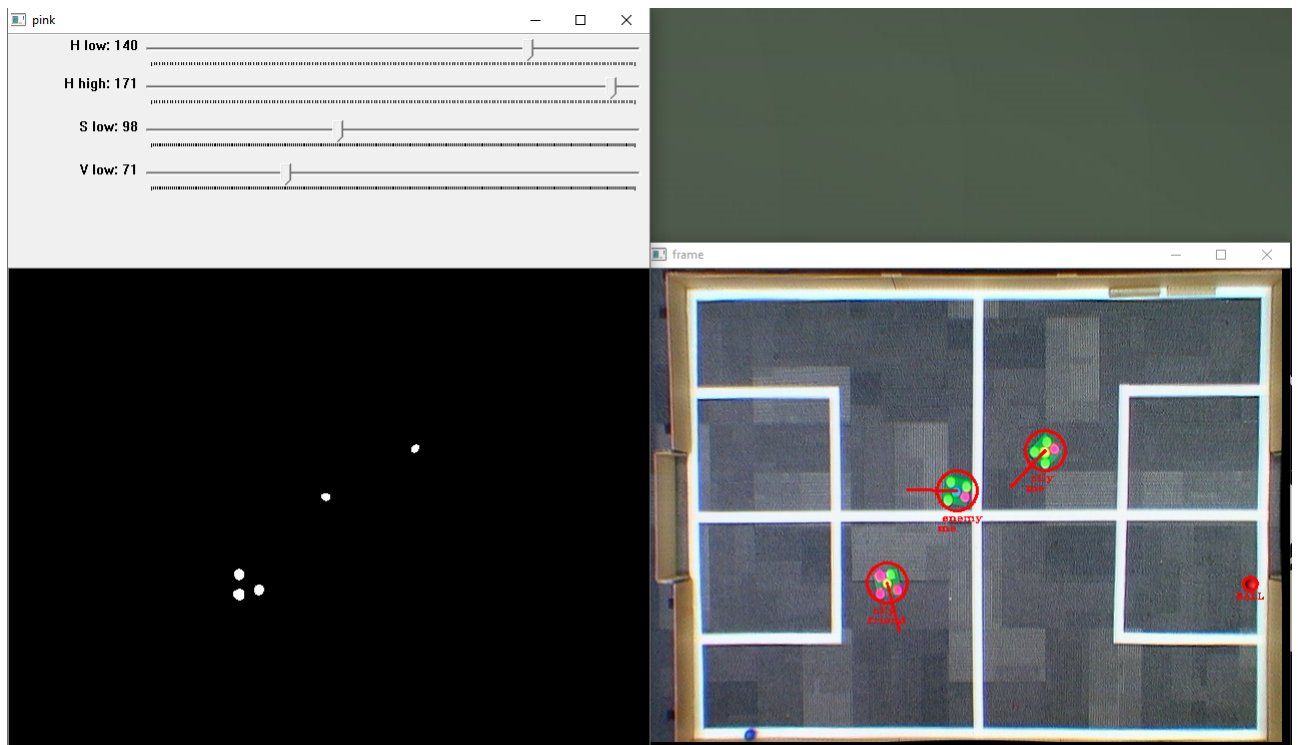

Figure 2: Pink colour mask and object classification in the vision feed
1. Run `$ xawtv` and manually adjust the brightness and contrast so that the colours are clearly visible (use Figure 2 as guidance).
4. After pressing `Esc` to proceed, a video feed and separate window with slide bars will appear. Change the `S_low` and `V_low` bars until all objects of that particular colour are visible in the mask. It is not recommended to change `H_low` and/or `H_high` values, though possible if needed. Once all objects in the mask are clearly visible (see Figure 2), press `Esc` to proceed to another colour until all colours have been calibrated, at which point the camera feed will disappear and a calibration confirmation will be written to the terminal. The calibration settings are saved into `vision/config/colors.json`.